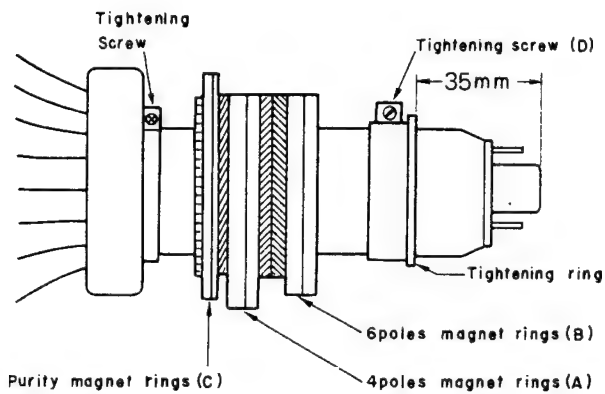
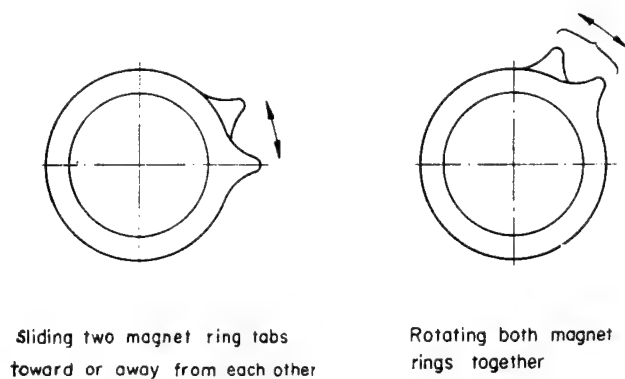

Fig. 16
Fig. 17
- 3) Rotate the purity magnet (c) (Fig. 16), and set two coloured parts to become equal in area. . . Fig. 15(c).
Note) Put the purity-convergence magnet assembly on the picture tube neck, so that the edge of tightning ring isolated 32 mm from the tip of the neck. . . Fig. 16.
11. STATIC CONVERGENCE ALIGNMENT. . . . Fig. 16 and Fig. 17.